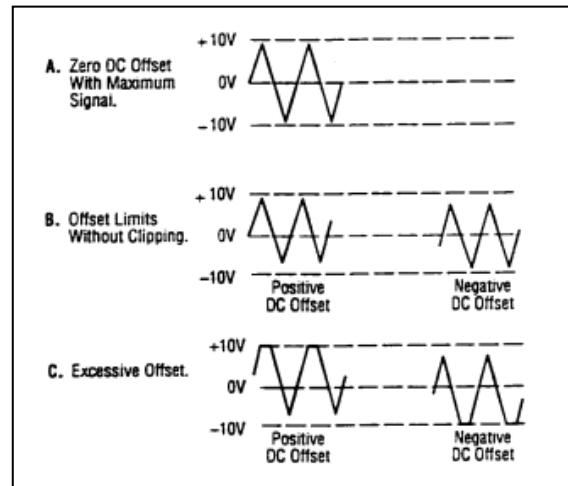

Figure 3. Use of DC OFFSET Control
7. A superimposed DC component can be added to the output signal by engaging the **DC OFFSET** switch (12) to enable operation of the **DC OFFSET** control (5). Rotation of this control adds a positive or negative DC component to the output signal. The DC component introduced is independent of the **OUTPUT LEVEL** control and can be varied by ± 10 volts open circuited or ± 5 volts into 50Ω . The DC Offset does not affect the TTL/CMOS output jack. The effect of DC OFFSET is shown in Fig. 3.
6. Remember that the output signal swing of the generator is limited to ± 10 volts open circuited or ± 5 volts into 50Ω , and applies to the combined peak-to-peak signal and DC offset. Clipping occurs slightly above these levels. Fig. 3 illustrates the various operating conditions encountered when using the DC offset. If the desired output signal is large or if a large DC offset is required, an oscilloscope should be used to make sure that the desired signal is obtained without undesirable clipping.